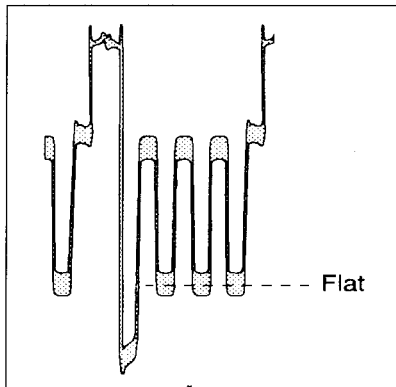

fig 2.7B
5. Adjust the colour using buttons 4 or 6 until the waveform is as shown in figure 2.7B.